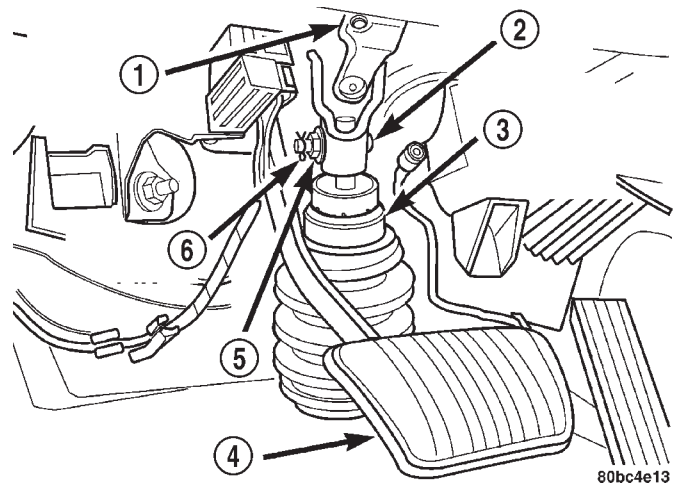

Fig. 3 Steering Column Couplings
(2) Inside the passenger compartment, remove the steering column coupling retainer pin, back off the pinch bolt nut, and remove the steering column coupling pinch bolt (Fig. 3) (the pinch bolt nut is caged to the coupling and is not removable). Separate the upper and lower steering column couplings.
(3) Raise the vehicle. Refer to **HOISTING** in the **LUBRICATION AND MAINTENANCE** group in this service manual for the correct lifting procedure.